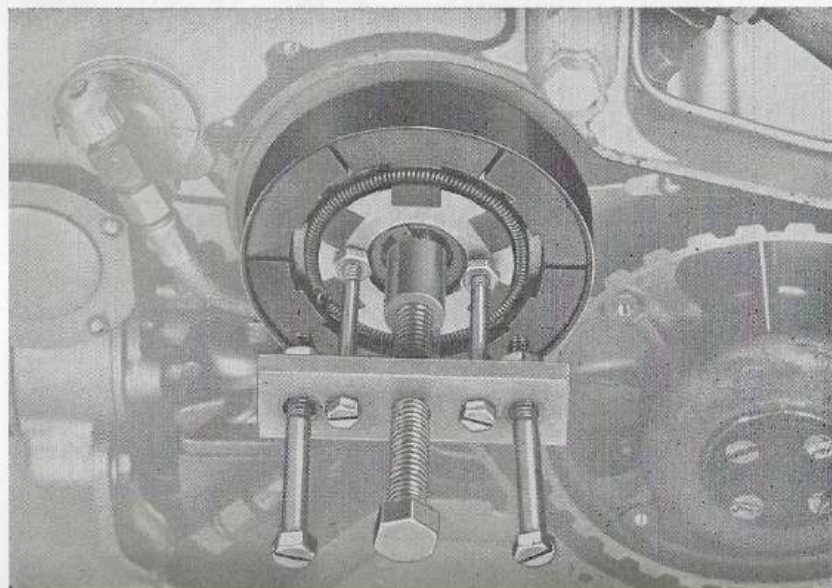
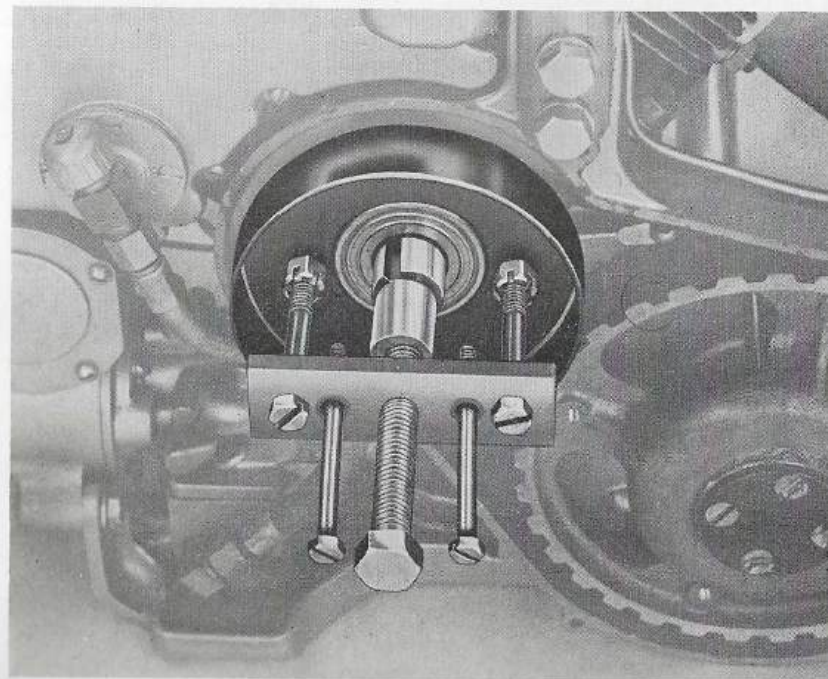

Figure 14—Pulling Clutch Spider Assembly
Figure 15—Pulling Clutch Drum Assembly
(2) If clutch spider assembly is oily or full of dirt, flush assembly clean with plain gasoline. (Not fuel mix).
(3) If drive belt is defective, remove the 1/2-20 flex locknut and flatwasher holding clutch assembly on shaft. Prevent shaft from turning by inserting a pointed tool through the air screen and blocking a rotor fin. Use puller as shown in Figure 14 to remove spider assembly. To remove clutch drum, use puller as shown in Figure 15.
(4) Start clutch drum on shaft. Place drive belt on clutch sprocket and start belt on large sprocket. Push clutch down on shaft slowly and at the same time turn drum to thread drive belt on large sprocket.
(5) Slide clutch spider on shaft with hub of spider toward drum. Line up the keyways and insert two keys between the shaft and the spider. Replace the flatwasher and lock assembly into position with the 1/2-20 flex locknut. Replace cover and fasten to drive case with five 8-32 x 1/2" fil. head screws and lockwashers.
(6) If, after these repairs, the saw does not operate properly, see Section V, paragraph 19.